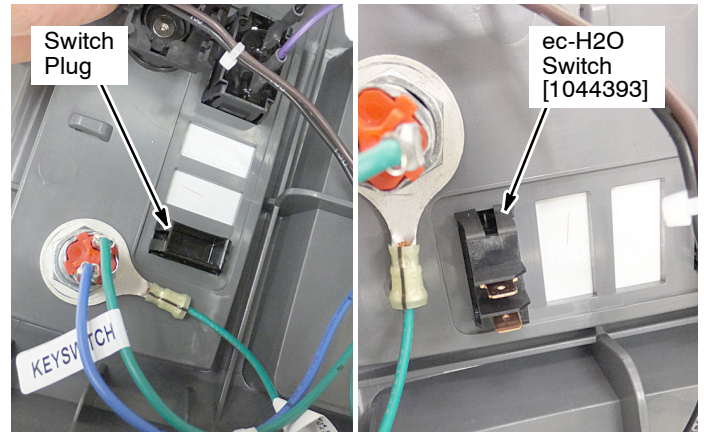

Fig. 9
- Remove the switch plug from the console and install the ec-H2O switch in the orientation as shown (Figure 9).